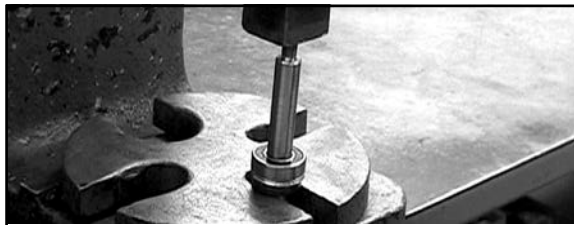

Figure 14
- To remove the Bearing from the shaft, place the shaft (threaded end up) in the arbor press fixture. Place the two support bars provided in the repair kit opposite each other and between the seal on the shaft and the arbor press fixture. Using an arbor press, press the shaft through the Bearing, Seal Spacer and Seal (See Figure 14).